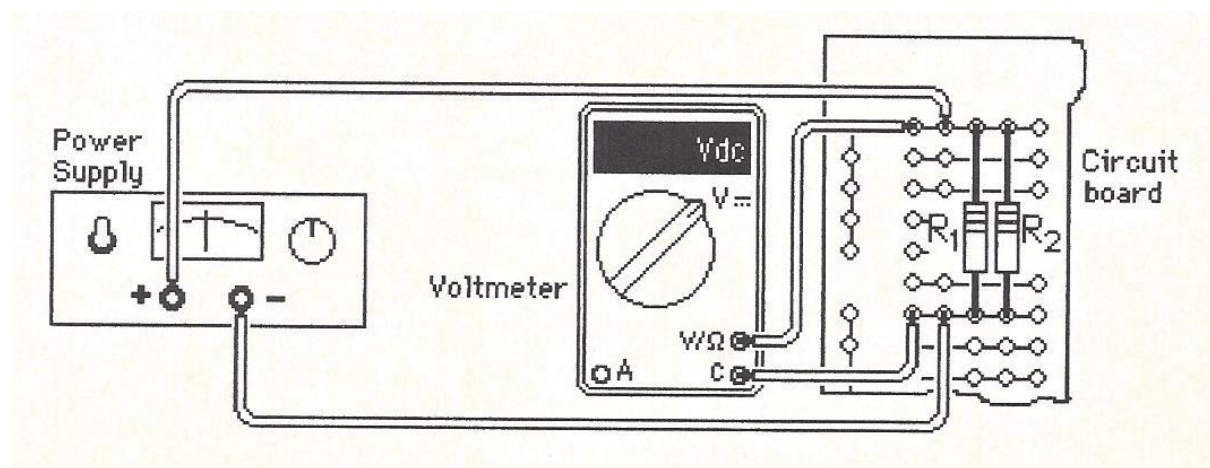

Figure 3
1. Connect the resistors R_1 and R_2 in parallel as shown in Figure 3 and adjust the power supply to give $E = 9\text{ V}$.